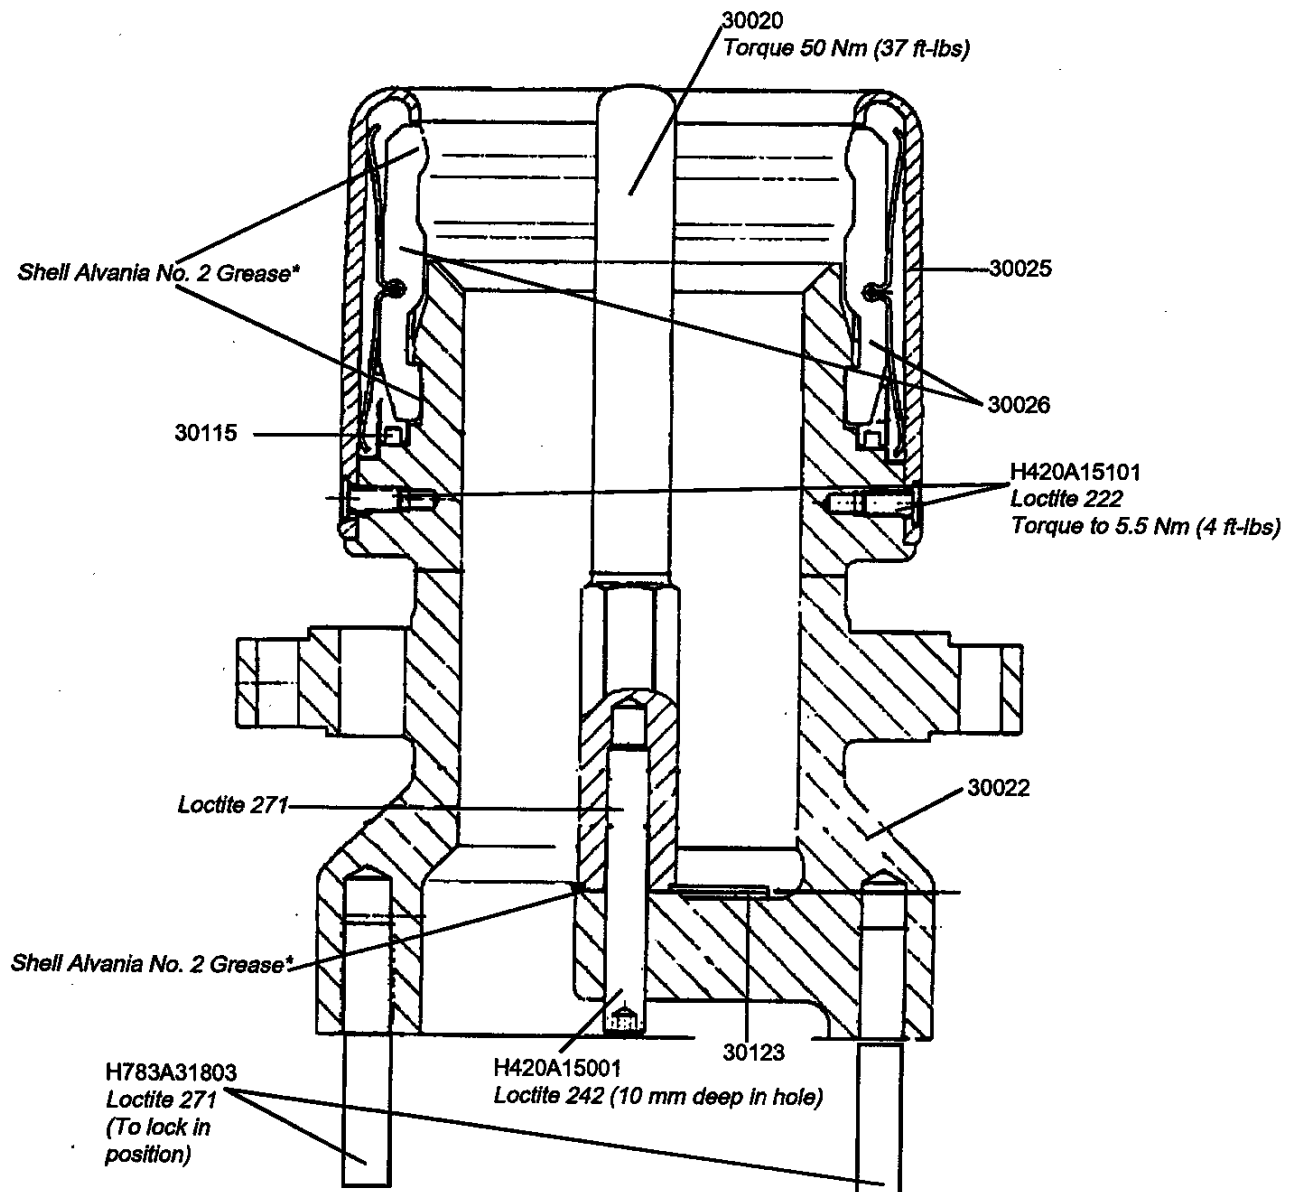

Figure 5
- b. Lift the stationary contact assembly 30019 (Figs. 4 and 5) into the rear of the interrupter unit and firmly push it into position so that it fully engages the moving contact assembly (to ensure contact alignment). Be sure that the stud H783A31803 (Fig. 3) located closest to the base of the boss that supports the stationary arcing contact 30020 (Fig. 5) is aligned opposite the plug-in connections 30052 (Fig. 3) for the bushing conductors.